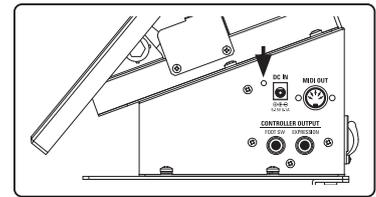
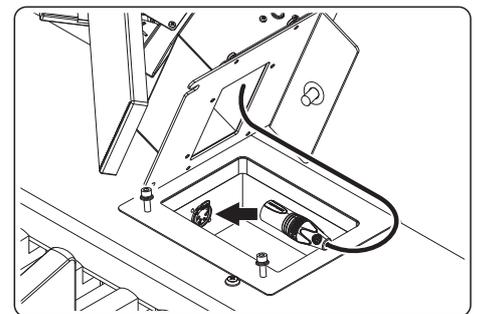

Fig. 1
Fig. 2
- ◆ Using via an **H-BUS** cable: Watch the LED on the Expression Pedal Unit (Fig. 1) by pressing a Pedal. If it does not light, check the connection of the **H-BUS** cables both to the organ and to the Pedalboard, and the Pedalboard to the Expression Pedal Unit (Fig. 2).
- ◆ Using via MIDI cable: If the LED on the Expression Pedal Unit (Fig. 1) blinks slowly, the **H-BUS** cable from the Pedalboard to the Expression Pedal Unit is disconnected (Fig. 2).